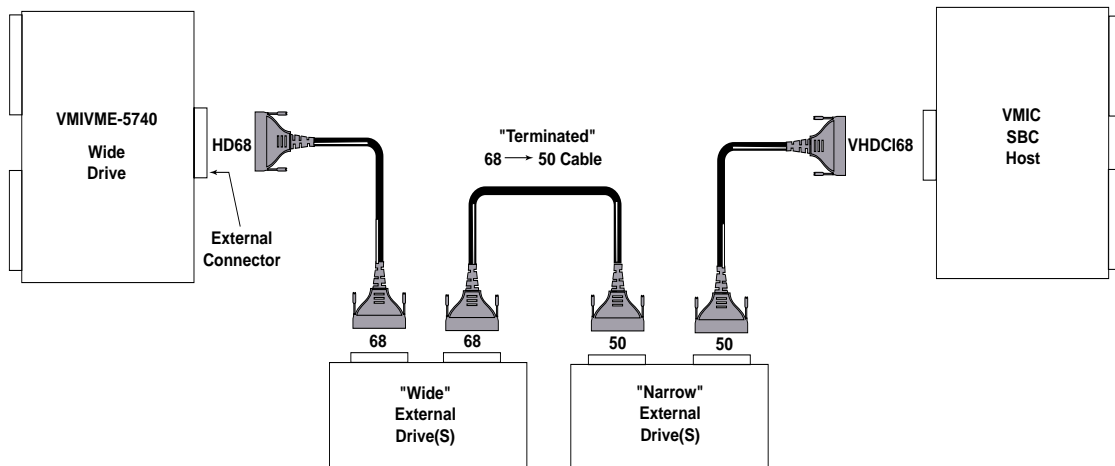

Figure 1-5 SCSI Chain Connectivity
- Figure 1-5 SCSI Chain Connectivity 15
In a multi-drop SCSI bus, the VMIVME-5740 must be connected at the end of the SCSI bus. The front panel SCSI connector is a 68-position high density, female receptacle. See Figure 1-5 below for an illustration of connecting SCSI devices in a chain.